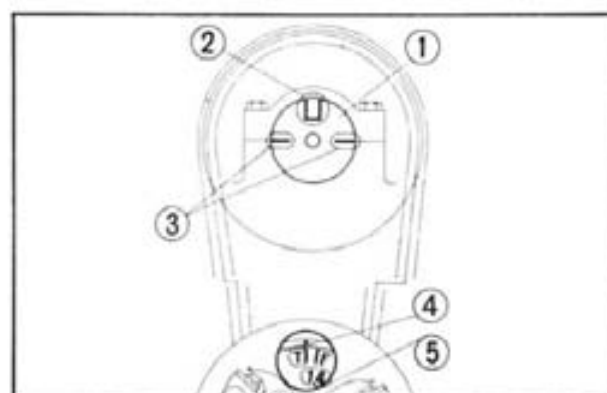

Fig. 3-40 ① Camshaft ② Groove ③ Index lines ④ "T" mark ⑤ 1.4 mark
- Assemble the cam chain on the sprocket before mounting the cam sprocket. Place the camshaft on top of the camshaft holder and align the timing index line on the right side of the camshaft, so that it is parallel to the top surface of the camshaft holder. (The key groove must be toward the top). In this condition the base circle of the No. 4 cam is toward the top and the No. 1 cam is in the overlap position. (Fig. 3-40, 41)